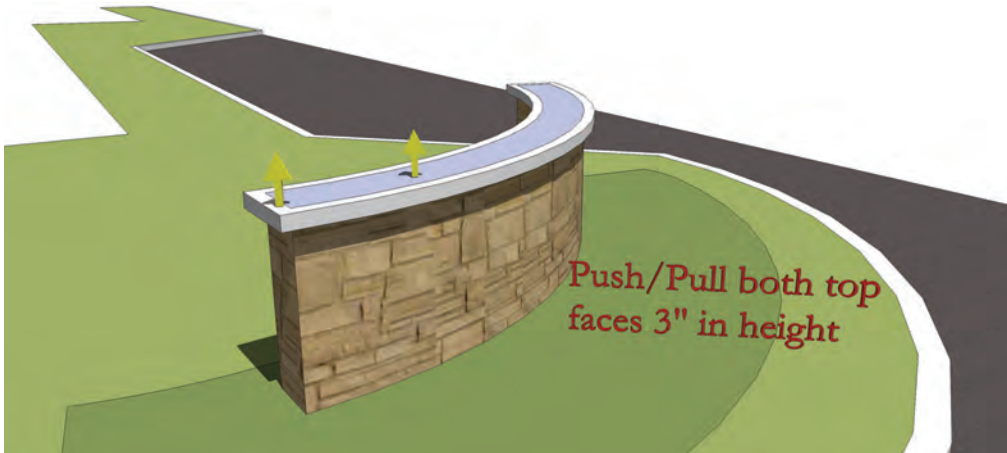

Fig. 7-44: Push/Pull the top faces of sign wall 3' in height.
- c. Delete the excess lines of the inner face and add color to the faces (Fig. 7-44).